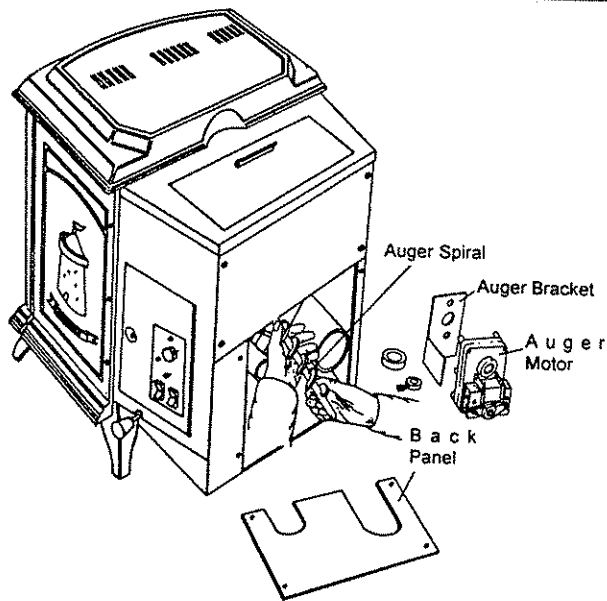

Fig. 48
- H. The Auger spiral (item no. 53) can be removed by pulling it down and out and free from unit (see fig. 48).